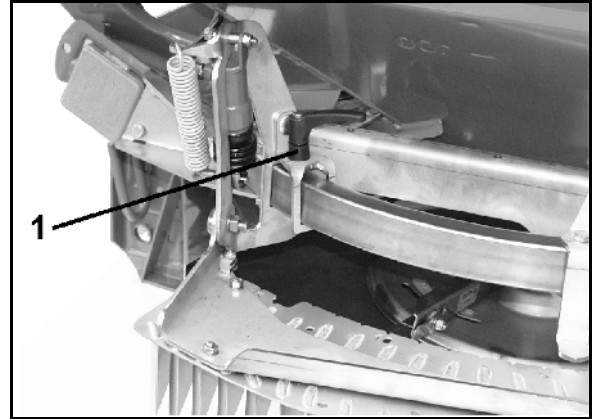
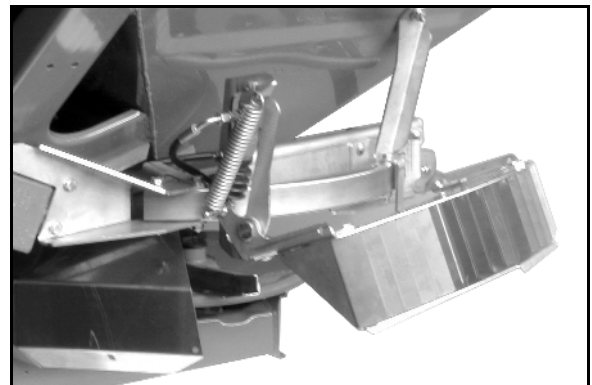

Fig. 74
Fig. 76
Read the value to be set from the setting chart (Fig. 74).
2. Displace the boundary spread deflector on the guide bracket (Fig. 76/1) so that the pointer (Fig. 76/2) is at the value specified as per the setting chart (Fig. 74).